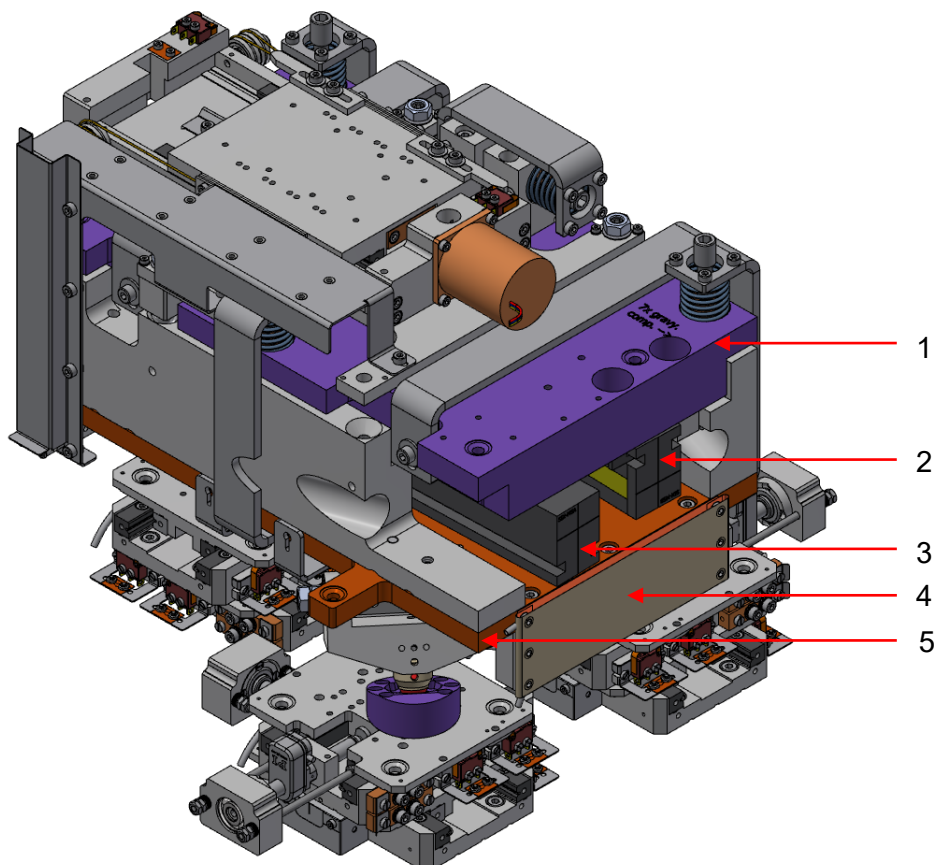

Figure 52: M5 mirrors assembly
- E. Remove the collision switch (#4 in Figure 52) cables after loosening the corresponding fixing Allen screws, see Figure 56.